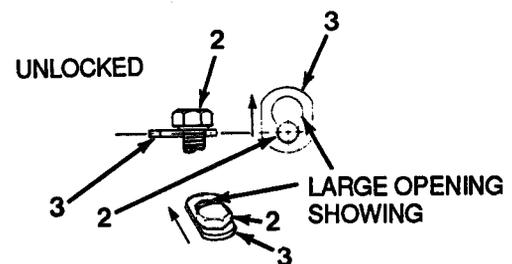

Figure 7-12
15. Reposition locked timing seal (3, Figure 7-12) to unlocked position.
16. Torque injection pump driveshaft lockscrew (2) to 7 lb-ft (10 N•m).